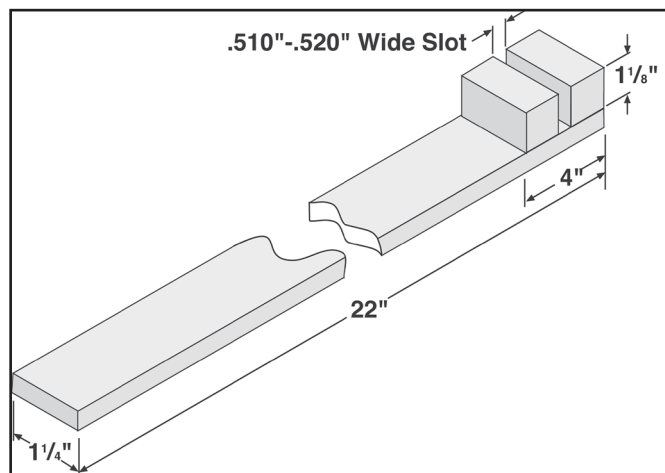

Figure 3
- S&S® Rod Checking Pin, part 53-0002, was designed to help perform this procedure. It may also be necessary, to fabricate a rod bending tool as illustrated in **Figure 3, below.**